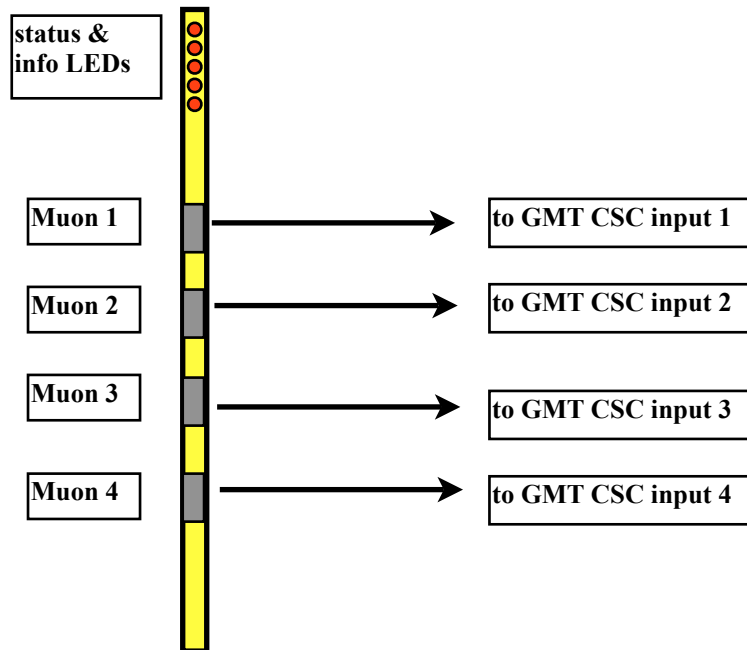

Figure 6. The SCSI Cable Connection from the Muon Sorter to the GMT.
The Muon Sorter (MS) passes up to 4 CSC muon candidates per event to the Global Muon Trigger (GMT). The connection is made using four 8-m-long Universal SCSI Cables⁴ containing shielded twisted pairs. The 4 connections count from “Muon 1” down to “Muon 4” as one reads down the MS front panel. These cables run up the side of the Track Finder rack, into the overhead cable tray and then down the opposite rack to the CSC part of the GMT input residing in the Global Trigger crate in S1E04. This is shown in figure 6 (below).